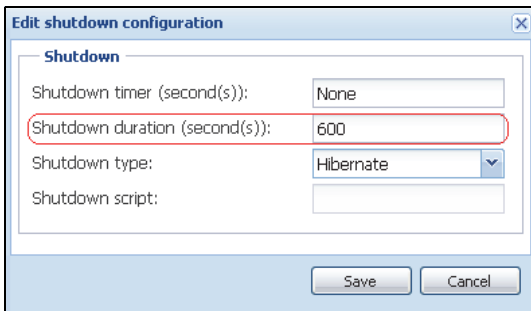

Figure 71. Edit Shutdown Configuration Dialog Box
- Figure 71 illustrates the Dell UPS Local Node Manager default configuration available from **Settings > Shutdown > Edit Shutdown Configuration**.